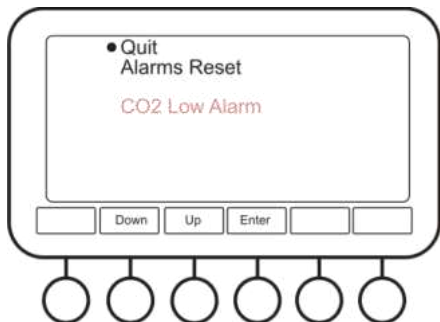

Figure 11. Active Alarms menu
5.9.4. **Active Alarms** (fig. 11). This option allows user to view and reset the list of active alarms. See **6.5**, for a list of possible alarms.